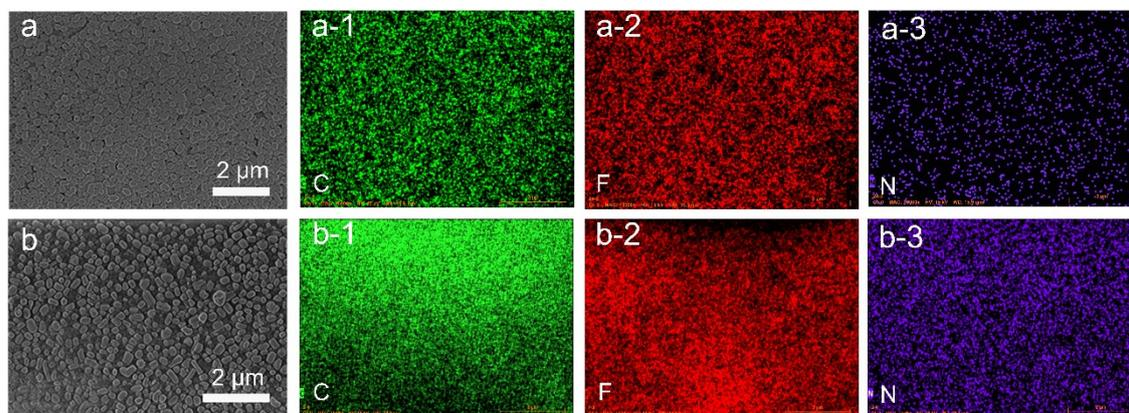

Figure S1. (a) SEM elemental mapping images of PTFE and (b) SEM elemental mapping images of PTFE/PSAN.
2. Supplementary Figures (Figure S1–S6)